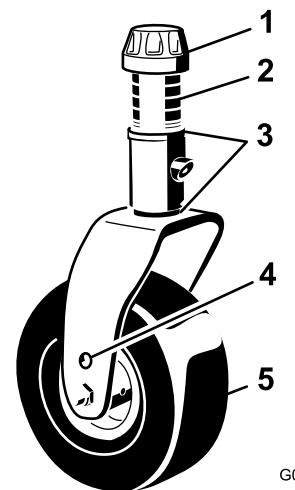
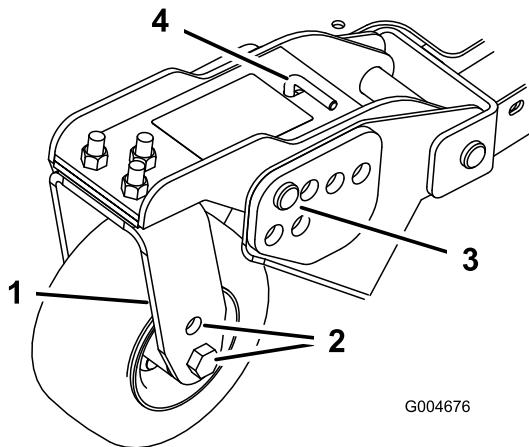
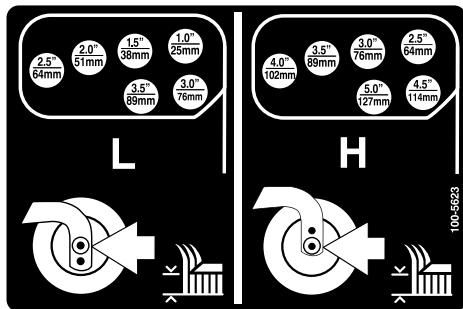

Figure 19
Figure 21
Figure 22
- Position the caster-wheel axles in the same holes in all of the caster forks (Figure 19 and Figure 21).
- Remove the tensioning cap from the spindle shaft and slide the spindle out of the caster arm (Figure 19).
- Remove the hairpin cotter and clevis pins from the caster-pivot arms (Figure 21).
- Rotate the tension rod to raise or lower the pivot arm until the holes are aligned with the selected height-of-cut bracket holes in the mower-deck frame (Figure 21 and Figure 22).